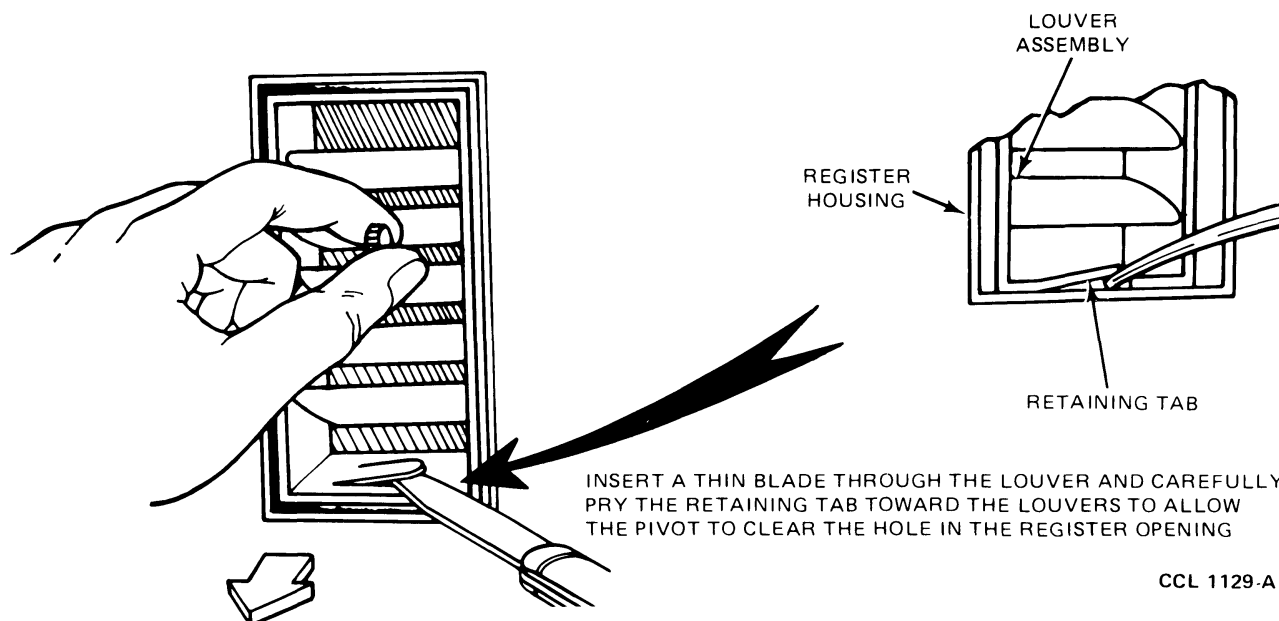

Fig. 13 — Instrument Panel Register Louver Removal
1. Insert a thin blade under the retaining tab (Fig. 13) and pry the retaining tab toward the louvers until the retaining tab pivot clears the hole in the register opening.